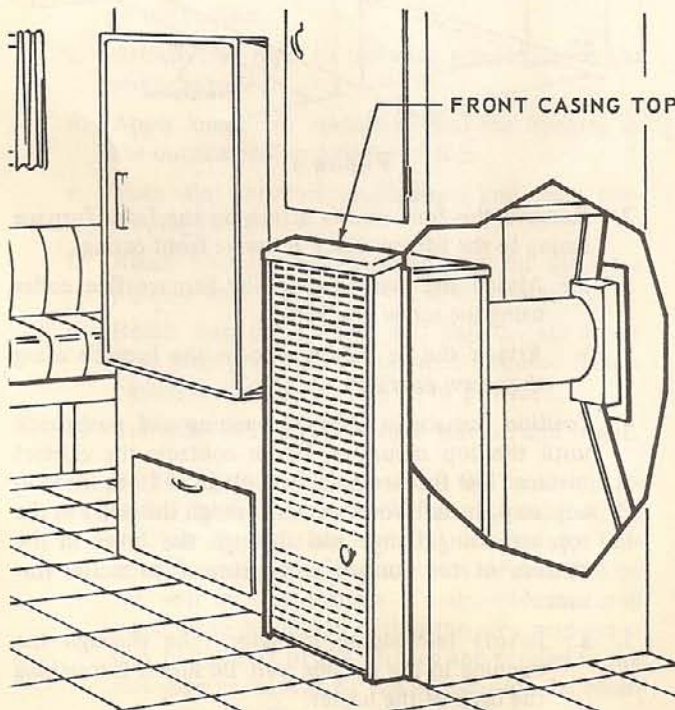
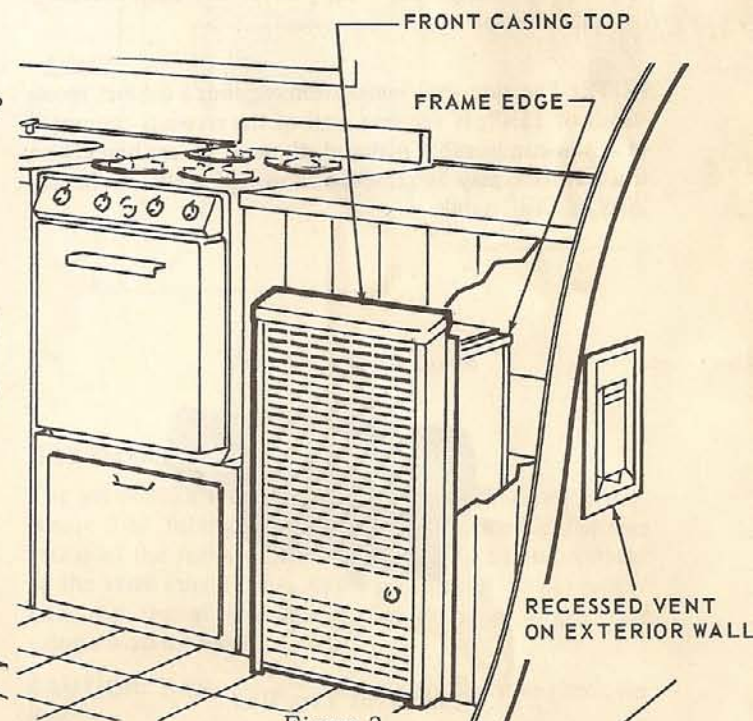
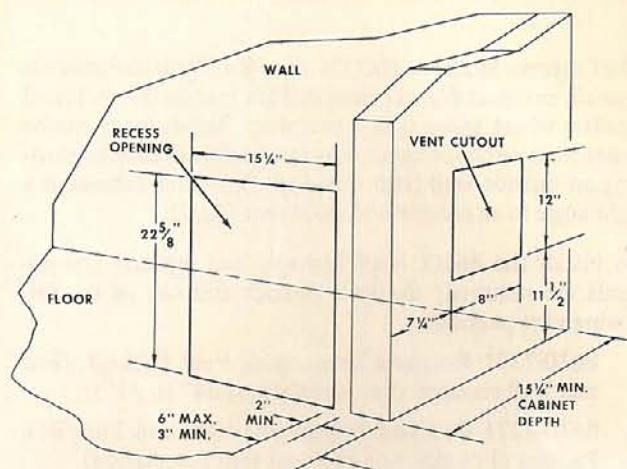

Figure 1.
Figure 2.
Figure 3.
The Coleman Model 8610C Thru-the-Wall Vented furnace is a small, compact furnace designed for installation in Travel Trailers where space is at a premium. The furnace can be installed in either of two locations: in a small cabinet abutting an outside wall (rear vent-Fig. 1), or, in a cabinet at a right angle to an outside wall (side vent-Fig. 2).
When installing the furnace at right angles to the wall, the 8610-7221 Vent and Turn Box Package must be installed on the rear of the furnace to allow discharge to either the left or right of the furnace as shown in Fig. 2. When using the side vent installation, a cabinet depth of 15 1/4" must be available behind the forward face of the cabinet to allow for installation of the turn box. The (left) or (right) side of the furnace must be located 2" minimum from the inside wall surface as shown in Fig. 3.
- Sidewall - 2" (See Figs. 3 and 4)
Installation cut-outs for the furnace and the vent are shown in Figures 3 and 4.
1. Cut an opening in the cabinet and in the exterior wall of the travel trailer as shown in Figure 3.